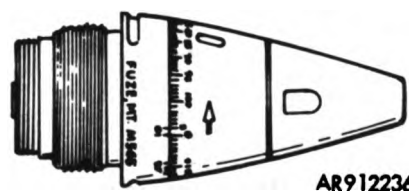

Figure 211.20. Mechanical time fuze M565.
f. Fuze, Mechanical Time, M565. (fig. 211.20). MT fuze M565 is similar to MTSQ fuze M564 except that the fuze contains neither the point detonating assembly nor the booster assembly. Fuze M565 can be set from 2 to 100 seconds. Like the M564, fuze M565 employs a vernier scale to ensure a setting accuracy of 0.1 second. This fuze is used with base-ejection projectiles only.